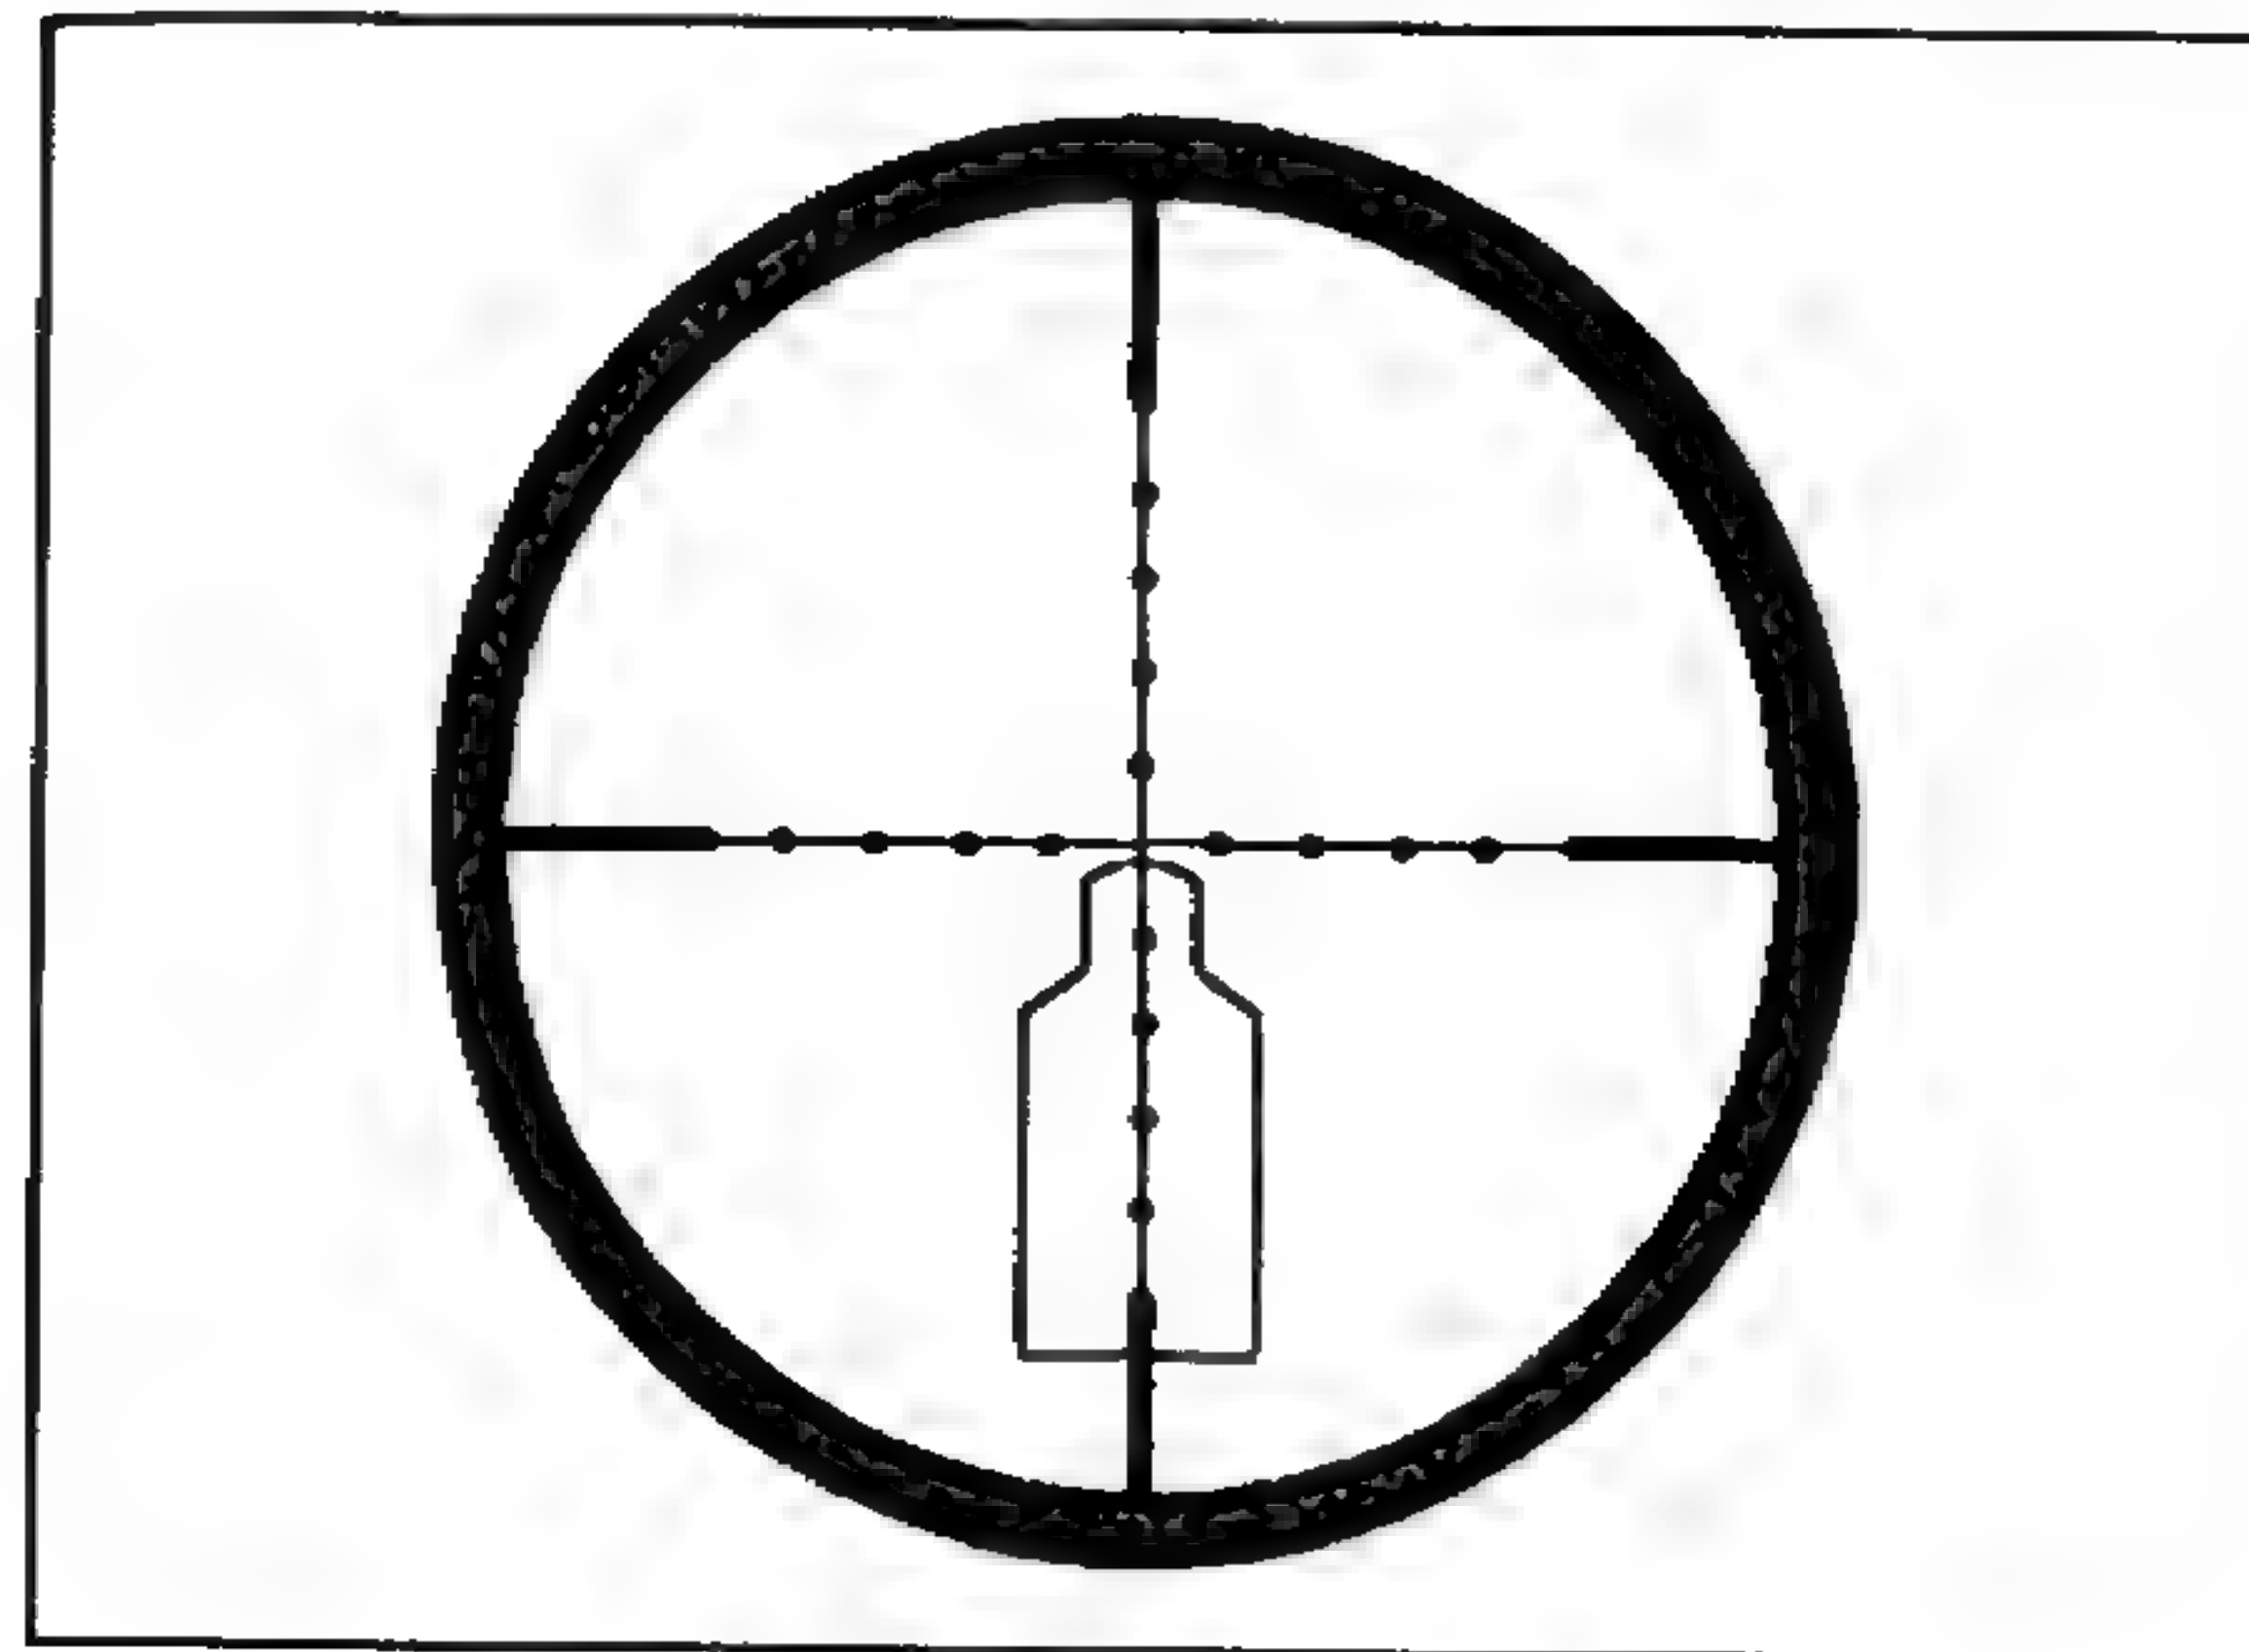

Figure 3-24. Elevation.
a. The sniper uses holdoff to hit a target at ranges other than the range for which the rifle is presently adjusted. When the sniper aims directly at a target at ranges greater than the set range, his bullet will hit below the point of aim. At lesser ranges, his bullet will hit higher than the point of aim. If the sniper understands this and knows about trajectory and bullet drop, he will be able to hit the target at ranges other than that for which the rifle was adjusted. For example, the sniper adjusts the rifle for a target located 500 meters downrange and another target appears at a range of 600 meters. The holdoff would be 25 inches; that is, the sniper should hold off 25 inches above the center of visible mass in order to hit the center of mass of that particular target (Figure 3-24). If another